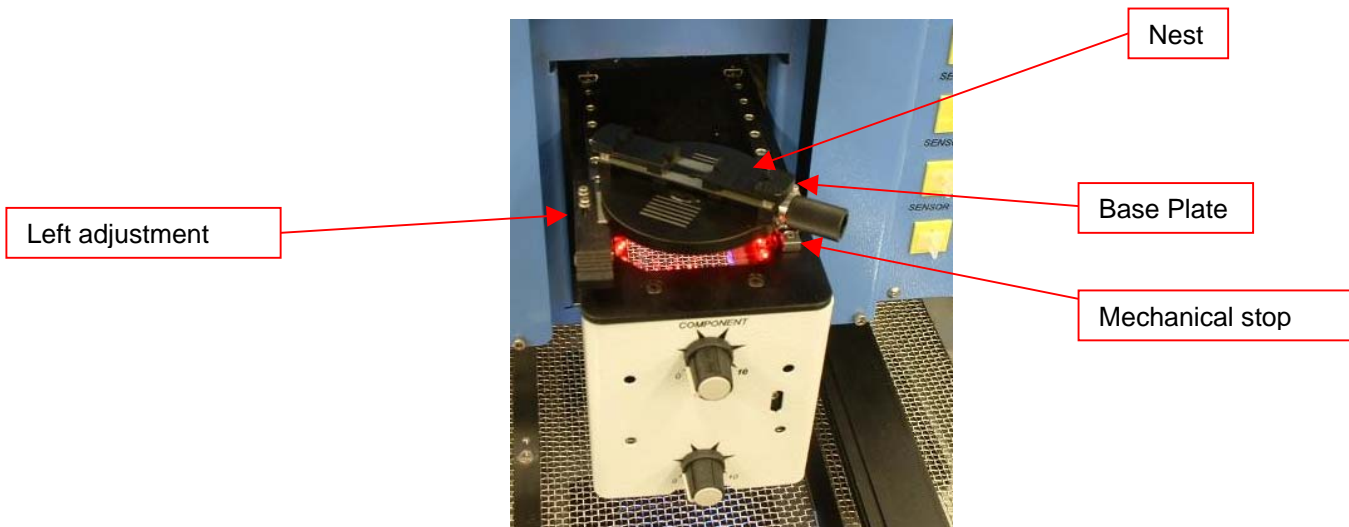

Figure 60
- d. Loosen the 2 screws holding the laser mount. (Figure 60)